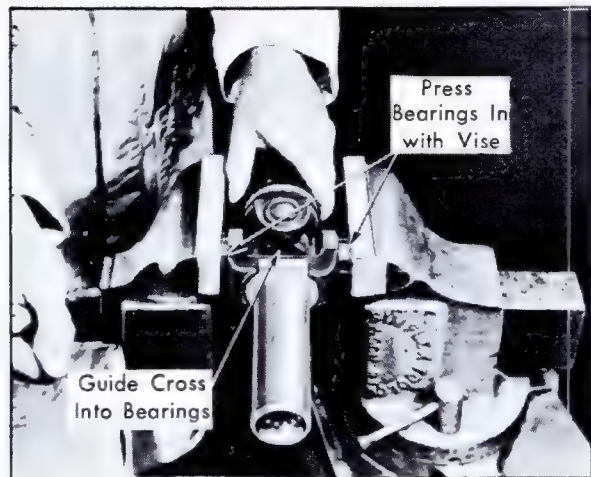

Fig. 4-24 Installing Universal Joint Bearing
4. Start opposite bearing into propeller shaft yoke and place in vise with jaws against bearings, Fig. 4-24.